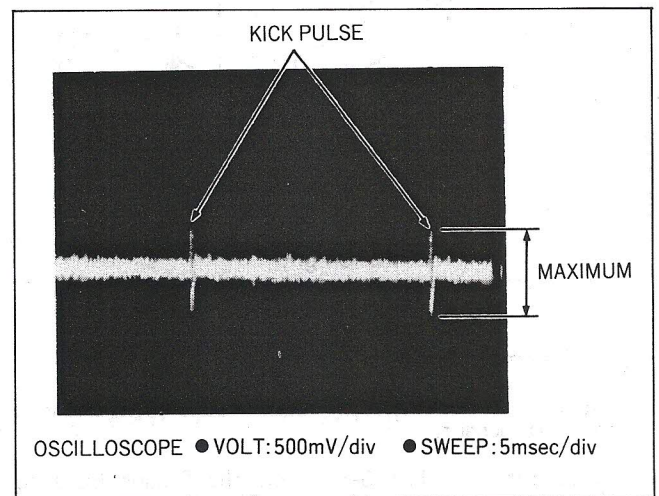

Fig. 9-3
4. Adjust VR22001 so that the Kick Pulse of Tracking Error is maximum as shown in Fig. 9-3.
4. Adjust VR22002 so that the Kick Pulse of Tracking Error is maximum as shown in Fig. 9-3.
- Adjust the Grating Hole so that the Kick Pulse of Tracking Error is maximum as shown in Fig. 9-3.